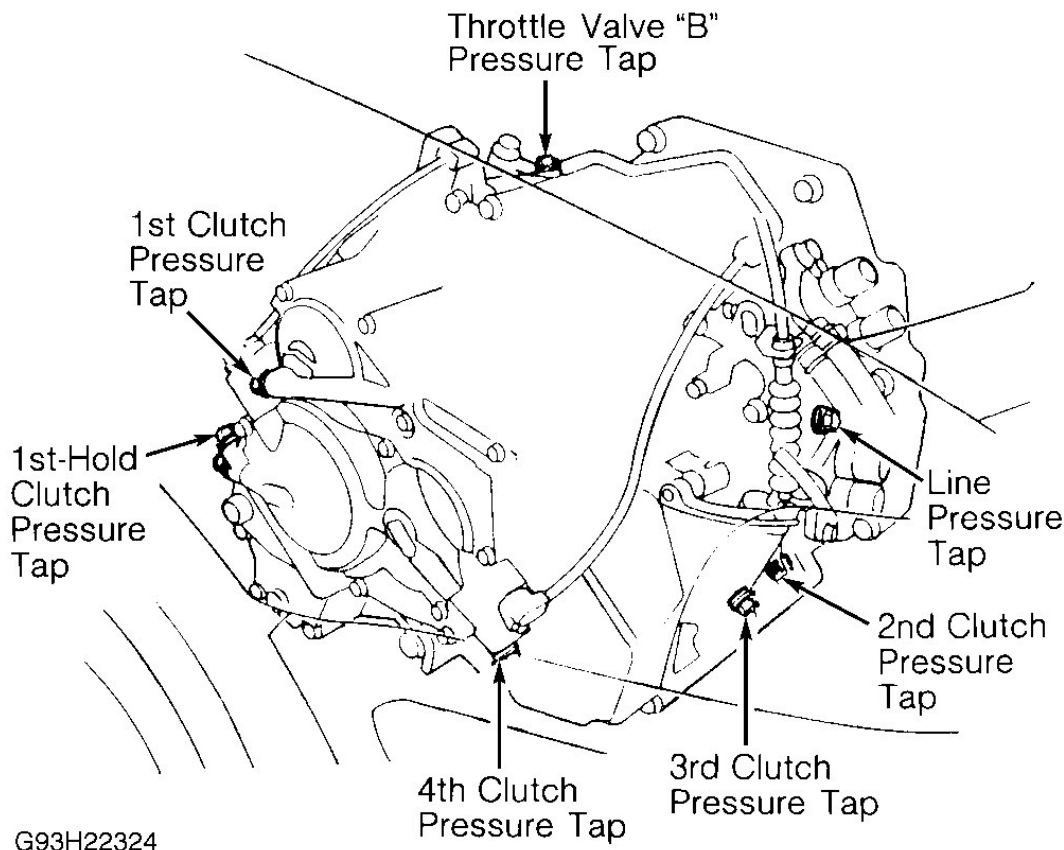

Fig. 4: Identifying Transaxle Pressure Taps
1. With engine off, remove plug from line pressure tap on transaxle. See **Fig. 4** . Attach Pressure Gauge Set (07406-0020400) to line pressure tap using NEW aluminum washer. Tighten hose fitting to 13 ft. lbs. (18 N.m).
NOTE: Clutch pressure should be checked at each clutch pressure tap on transaxle. See **Fig. 4** .
1. With engine off, remove plug from appropriate clutch pressure tap on transaxle. See **Fig. 4** . Attach Pressure Gauge Set (07406-0020400) to appropriate pressure tap using NEW aluminum washer. Tighten hose fitting to 13 ft. lbs. (18 N.m).
1. The low/high pressure is tested at 2nd, 3rd and 4th clutch pressure taps on transaxle. See **Fig. 4** . Disconnect Throttle Valve (T. V.) cable from transaxle T. V. lever.
1. Disconnect Throttle Valve (T. V.) cable from transaxle T. V. lever. With engine off, remove plug from throttle valve "B" pressure tap. See **Fig. 4** .